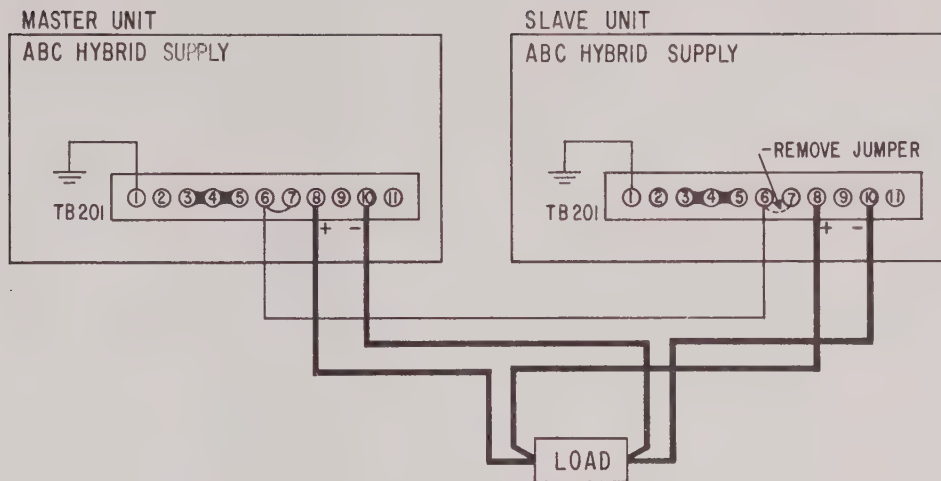

FIG. 3-9 CONNECTIONS FOR PARALLEL OPERATION
3-35 PROCEDURE (Refer to FIG. 3-9)
- a) Remove jumper link between terminals (6)-(7) on the rear barrier strip of the Slave-Supply.
- b) Connect power supplies as shown in FIG. 3-9. Equal lengths of load connecting wire should be used from both units to the load. Observe polarities.